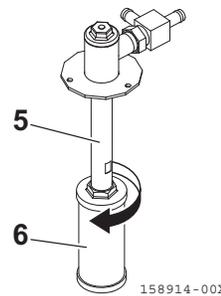

Fig. 8-52
4. Separate the return pipe (**Fig. 8-52, 5**) and return filter (**Fig. 8-52, 6**) using a spanner with a width across flats of 32 mm and 41 mm.
5. Install a new filter to the return pipe (**Fig. 8-52, 5**).